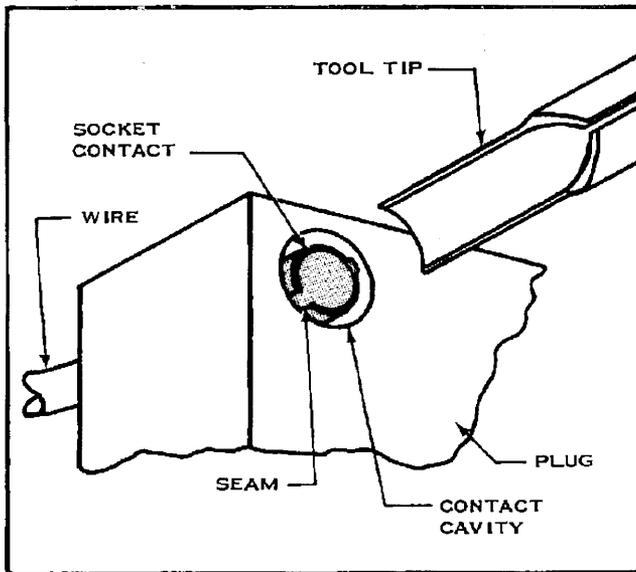

Fig. 2
- (a) View Plug as shown in Figure 2. Notice seam on Socket Contact.
- (b) Push Socket forward in Cavity as far as it will go and insert Tool Tip into Contact Cavity (see Figure 2) so that Tip is on opposite side of Contact from seam.
- (c) Make sure Tool is completely bottomed in Cavity. Then pull on Wire to remove Contact from Cavity. See Figure 2.